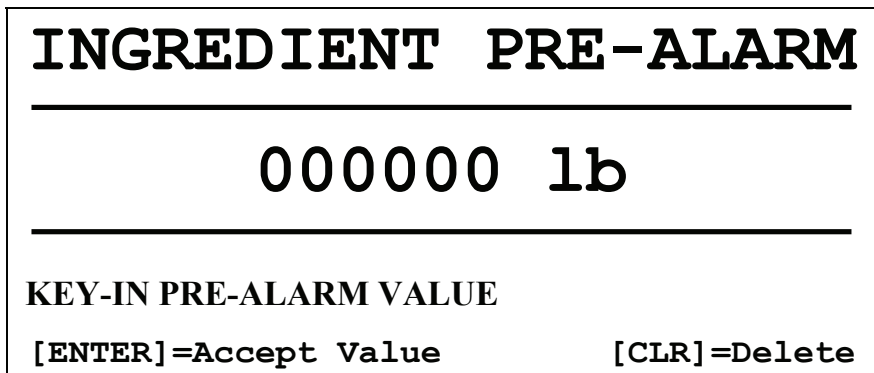

Figure 22: Ingredient Pre-Alarm Screen
5. Press **[ENTER]** to save the name and proceed to the Ingredient Pre-Alarm screen (see Figure 22).
4. Press **[ENTER]** to accept the ingredient name and proceed to the Ingredient Pre-Alarm screen (see Figure 22).